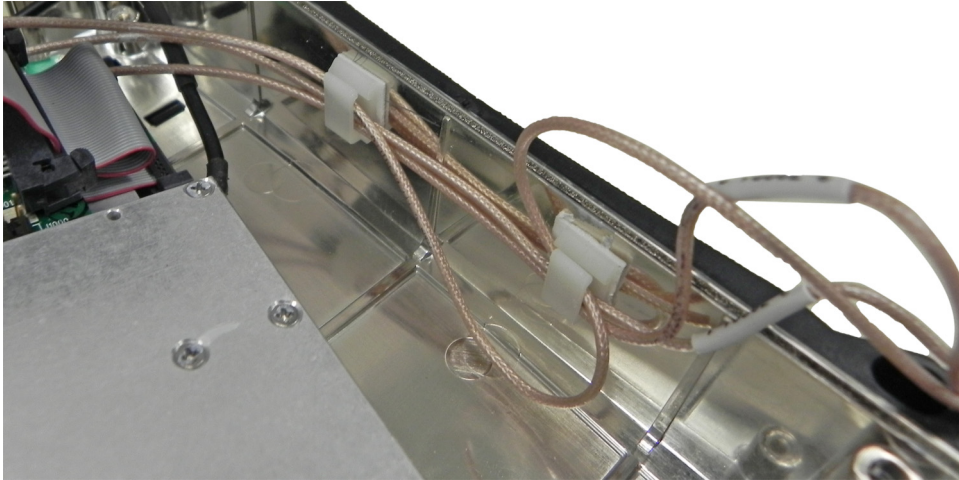

Figure 8-5. Spectrum Analyzer and Vector Signal Generator PCB Assembly
4. Release the cables from the retaining clips when removing the module.(Figure 8-5).